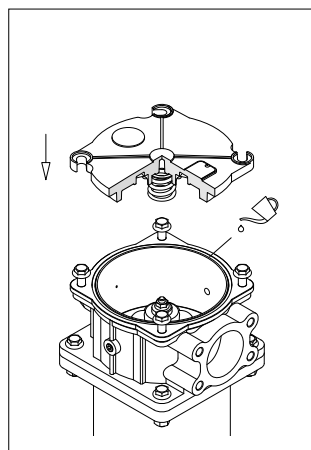

fig. 31
- (Fig. 31) Lubricate the head O-ring, then mount the cover "IN" by fitting the spring onto the spigot of the insert. The plate must be oriented on the same side as the port "IN"
- For the mounting of the head "OUT", please refer to the instructions Fig. 31÷33 above